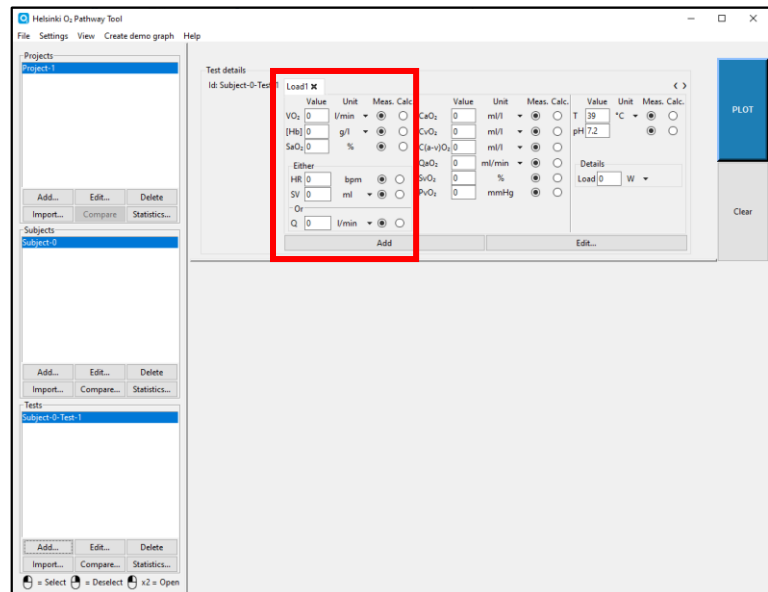

Figure 34
4. Enter values to the test details module (figure 34).